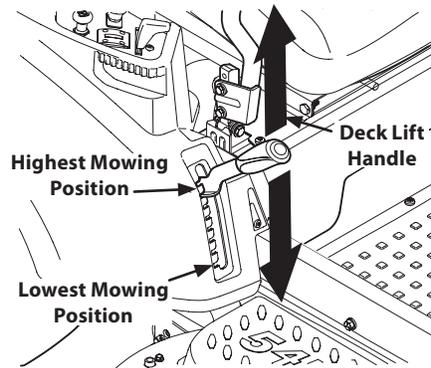

Figure 4-10
- Using the deck lift handle, raise the deck to the position that provides the most horizontal run of the belt between the deck idler pulleys and the PTO pulley on the bottom of the engine. See Figure 4-10.
- Lower the deck into the lowest mowing position using the deck lift handle. See Figure 4-10.
8. Place the deck lift handle into the highest mowing position and slide the deck out from beneath the tractor. See Figure 4-10.
1. Place the deck lift handle in the highest mowing position. See Figure 4-10.